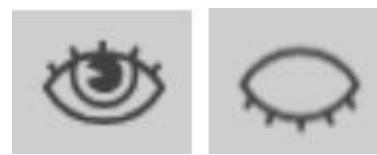

Figure 34: Visible segments and hidden segments clickable icon
- Select whether to **view/hide segments** on the scan by clicking on or off the **eye icon** (see Figure 34). You can view/hide all segment/ROI masks using the **Show Segments** button on the ROI panel.